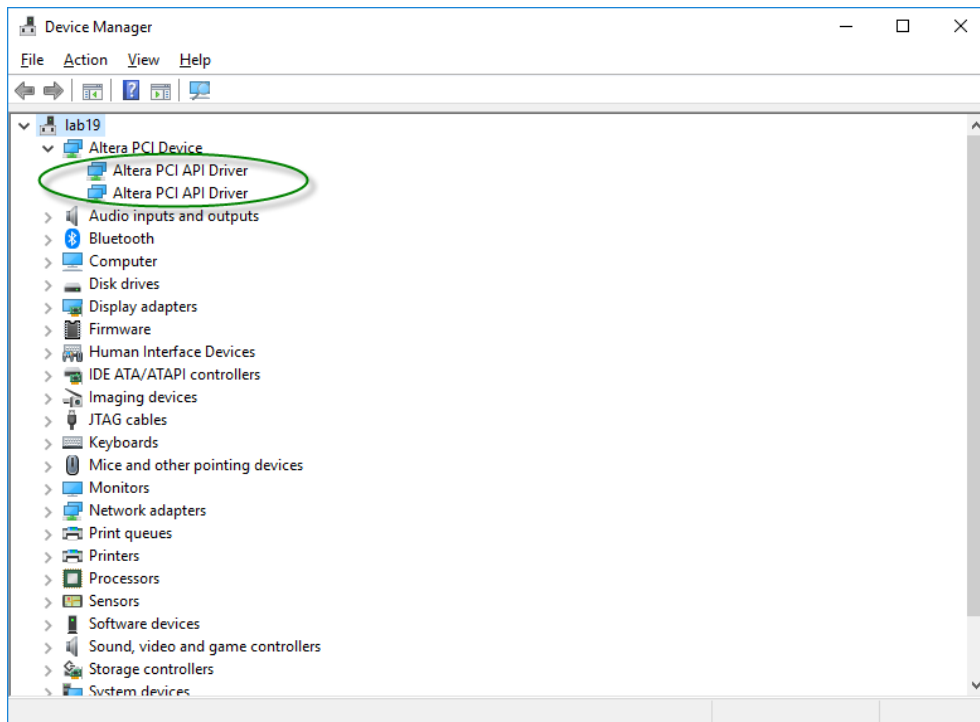

Figure 6-25 Screenshot of two FPGA PCIe devices are detected
6. Make sure there are two Altera PCI API drivers enumerated by checking the Windows Control panel as shown in **Figure 6-25**.